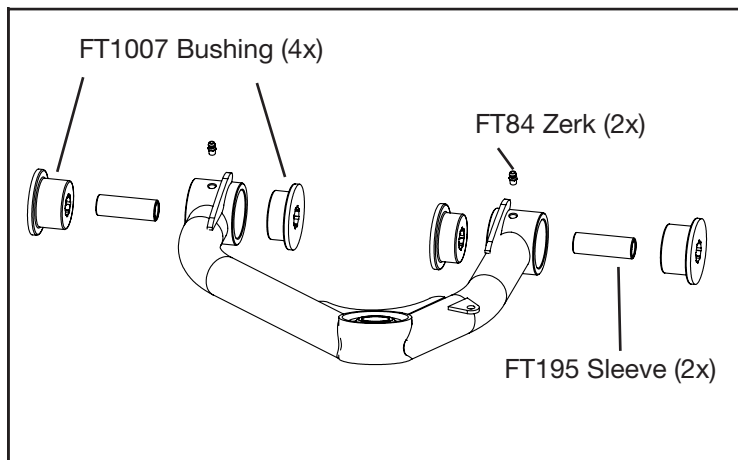

FIGURE 18 - STEP 14
14. Locate FT30613BK & FT30614BK (Driver & Pass side control arms), four FT1007 bushings, two FT84 grease zerks and two FT195 sleeves. Install all these components into the control arms. **SEE FIGURE 18**